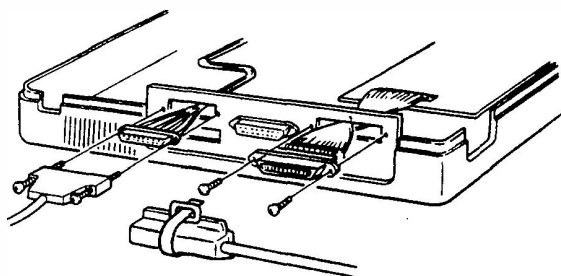

Figure 200-24 Fastening the J Cable Connectors Using Tie Wraps
2. Insert the connector into the slot to be used and fasten the connector with screws provided. Refer to Figure 200-24 Fastening the J Cable Connectors Using Tie Wraps.